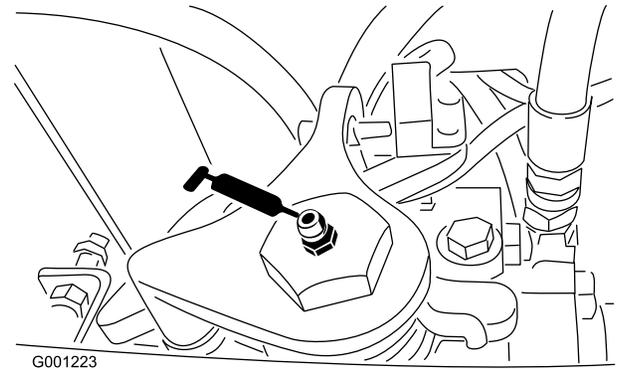

Figure 41
- Transmission neutral shaft (Figure 41)